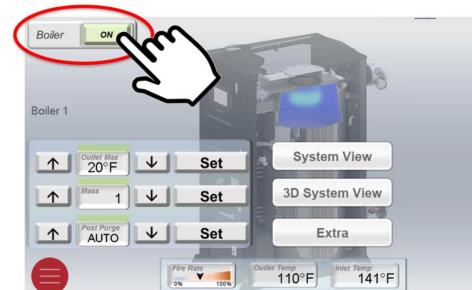

Figure 51. Enable/Disable Boiler
3. A new page will appear, a button on the top left of the screen can be toggled to Enable/Disable the boiler see **Figure 51**.